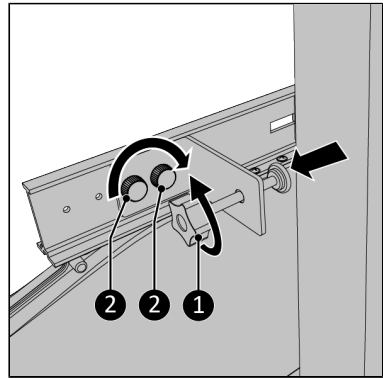

Figure 82.
12. Screw the clamping screw all the way back (Figure 82, pos. 1).
14. Screw the clamp bracket to the main rail using the two knob screws (Figure 82, pos. 2).